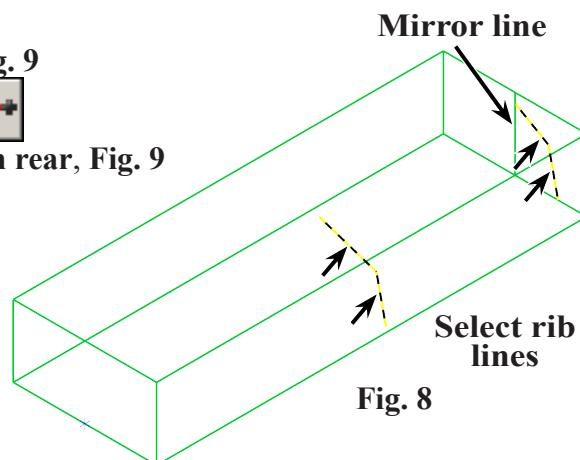

Fig. 8
Step 4. Click the 4 rib lines and click End Selection  (ENTER) Fig. 8.